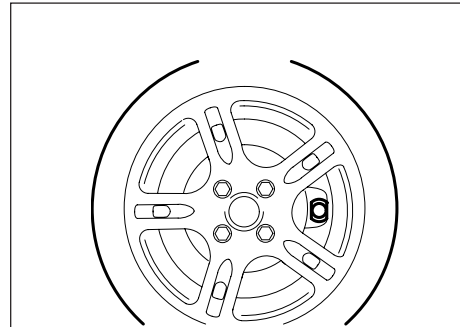

Fig. 1
- Align the wheel so that the receiver can be seen in the centre of the rim opening. DO NOT use the rim opening in which the tyre valve is fitted. (Fig. 1)
- a) Pass the cable through the attachment point and clip it back on itself (Fig 1.)